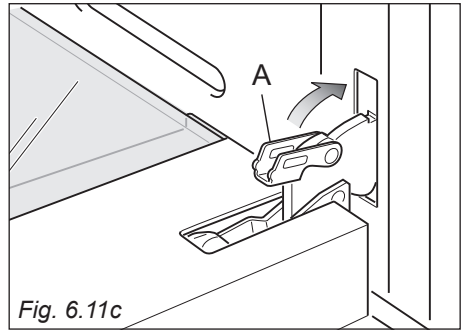

Fig. 6.11c
4. Fully close the levers "A" on the left and right hinges, as shown in the figure 6.11c.